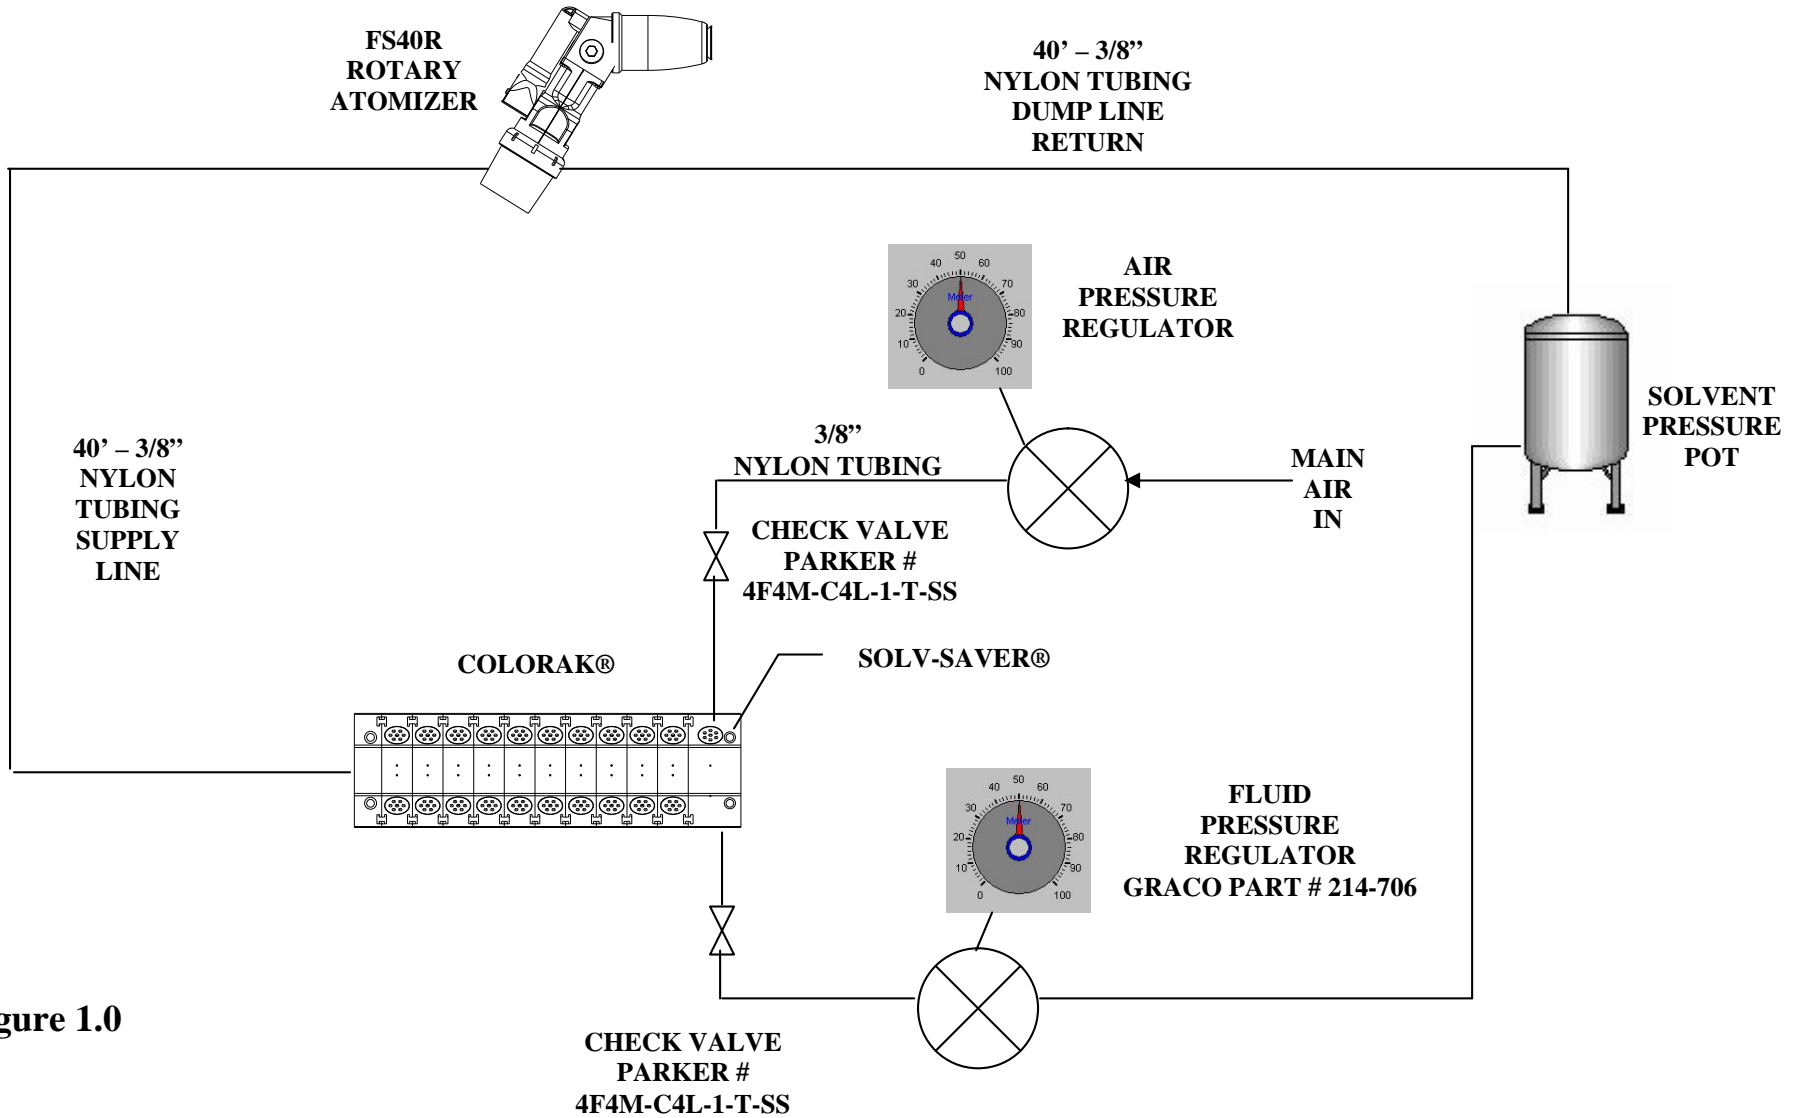
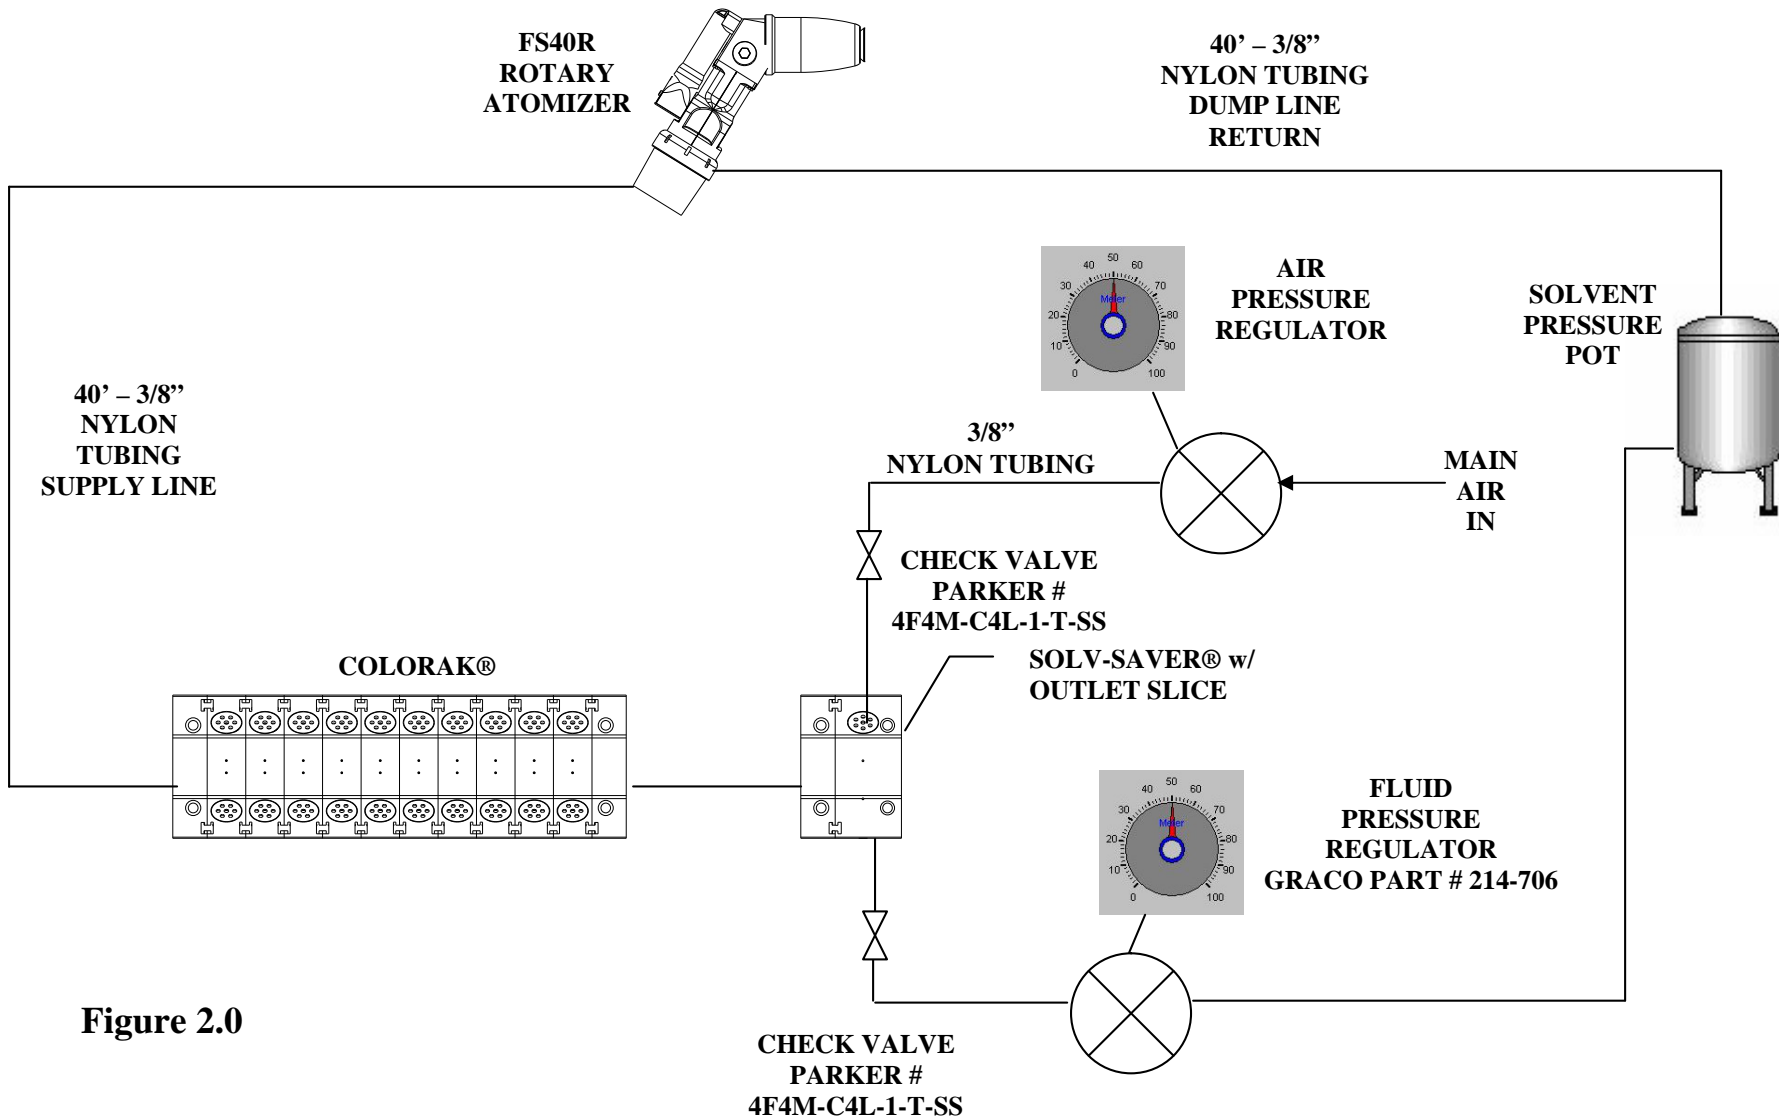

Figure 1.0
Figure 2.0
- Setup:** Two setups were used as illustrated below. The first (Figure 1.0) shows the Solv-Saver® placed at the beginning of a Colorak®. The second setup (Figure 2.0) was configured such that the Solv-Saver® is a stand-alone, supplying solvent & air to the Colorak®. For both setups, 40' of 3/8" O. D. nylon tubing was run from the Colorak® to an FS40 rotary atomizer (supply line). Another 40' of the same tubing was run from the FS40 dump line back to a pressure pot, which sent the solvent back to the color rack. Both air and solvent supply pressures were regulated. EFC regulated solvent using Graco Solvent Regulator Part # 214-706. Check valves (Parker # 4F4M-C4L-1-T-SS) were attached directly to the Solv-Saver® air and solvent inlets.
There was no noticeable difference between the setup of Figure 1.0 or 2.0, with regards to turbulent cleaning action.
2. Pontiac East Assembly – Pontiac East has been using the above setup shown in Figure 2.0 for six months and has seen a 50% reduction in the amount of solvent usage.
Suggestion: Set up and use the Solv-Saver® according to either Figure 1.0 or 2.0 above. It is especially important to use the check valves as shown in the figures.